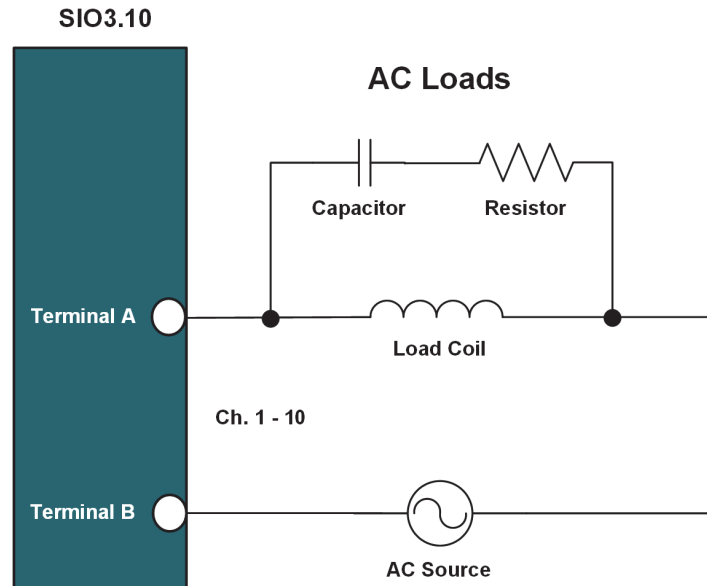
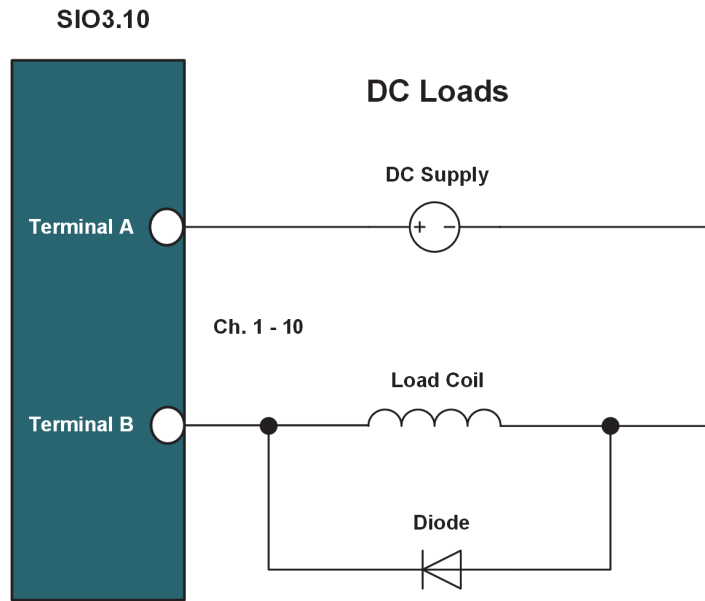

Figure 8-6 SIO3.10 Suppression Circuit with AC Load
Figure 8-7 SIO3.10 Suppression Circuit with DC Load
- External surge protection is required across the load for inductive loads greater than 50 mH. Suppression circuits for AC and DC loads are shown in Figure 8-6 and Figure 8-7, respectively.